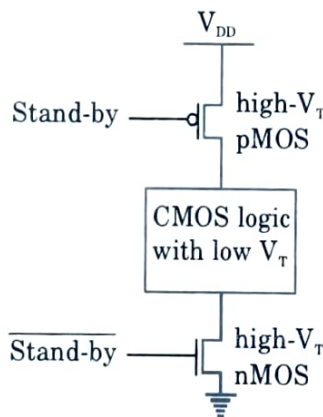

Fig. 4.16.1.
3. The circuit structure of Multiple Threshold CMOS (MTCMOS) is shown in Fig. 4.16.1.